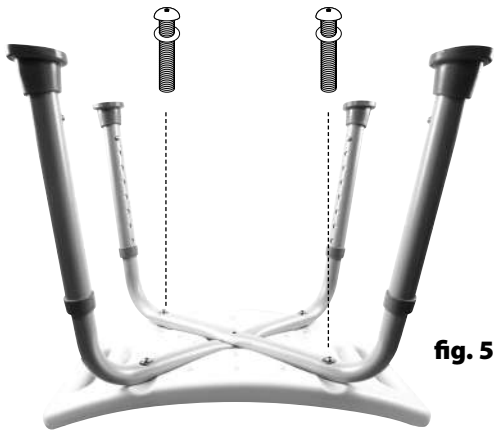

fig. 5
5. Attach leg assembly B to the seat board, using 2 x M6 screws and 2 x vaulted washers (see fig. 5)